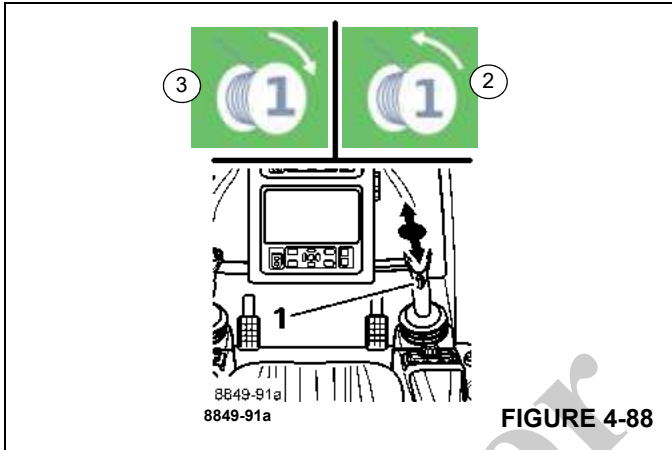

FIGURE 4-88
Raising:	Pull the control lever to the rear – symbol (3), (Figure 4-88) is displayed.
When the hoist drum is turning, you will notice a pulse on the rotation indicator (1), (Figure 4-88).